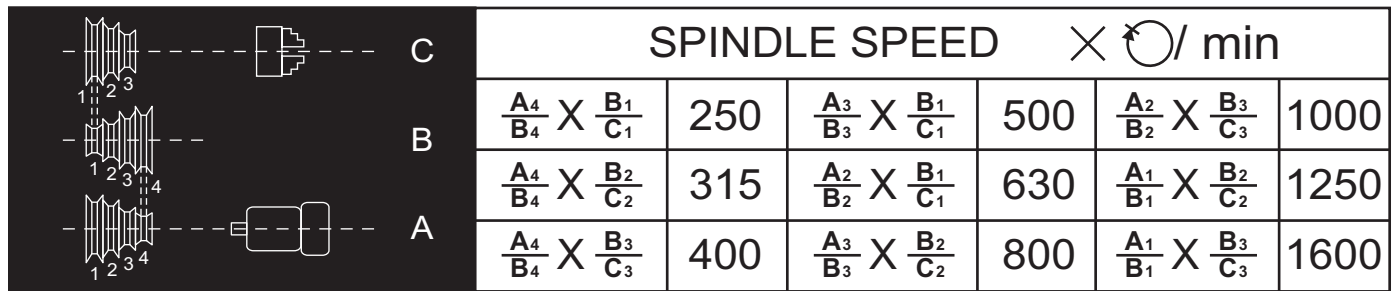

Figure 55. Lathe spindle speed chart.
3. Refer to the chart in **Figure 55** above and find the spindle speed that is closest to your calculated spindle speed.
4. Configure the V-belts on the pulleys according to the letter and number combinations to the left of the selected spindle speed in the speed chart (see **Figure 55**).
Step 4: The lathe spindle speed chart (**Figure 55**) shows that 1250 RPM is the closest configurable spindle speed for the operation. The information in the box to the left of this spindle speed shows the required V-belt configuration.